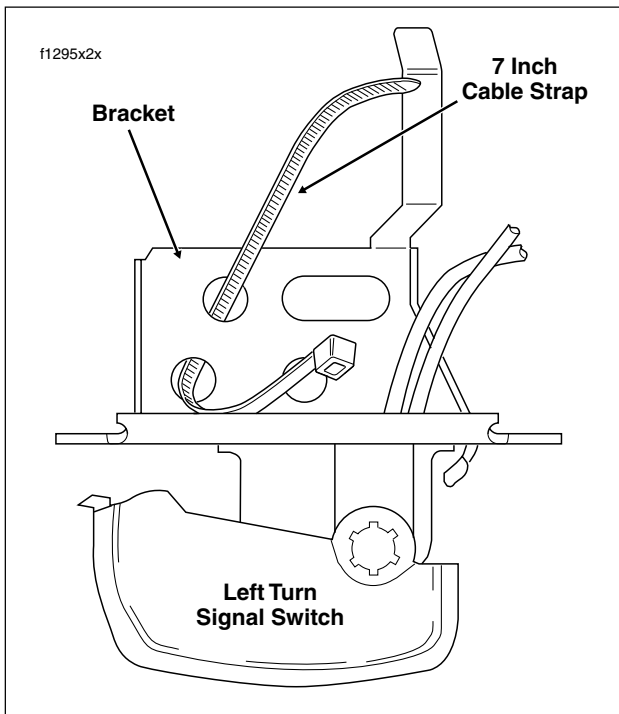

Figure 8-106. Insert Cable Strap in Switch Bracket
1. Insert tapered end of **new** 7 inch cable strap into round hole in turn signal switch bracket and then feed back through using the adjacent hole. Reserve the oblong hole for the bracket screw. See Figure 8-106.